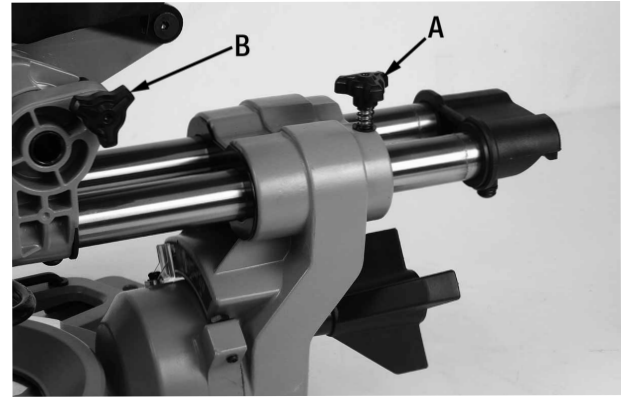

FIGURE 14
1. Slide the head assembly to its most rearward position and tighten the slide-rail lock knob (A) Fig.14 securely.
2. Raise the head assembly to its full height by pulling the saw head release knob (B) Fig.14.
When cutting wide workpieces, you should use the sliding action, unlock the slide lock knob (A) Fig.14.
1. Pull the saw head release knob (B) Fig.14 and lift the saw head to its full height.
A compound cut involves using a miter angle and a bevel angle at the same time. It is used in making picture frames, to cut mouldings, making boxes with sloping sides and for roof framing. Always make a test cut on a piece of scrap wood before cutting into good material. Use the slide action when cutting wide workpieces, unlock slide by loosening lock knob (A) Fig.14.